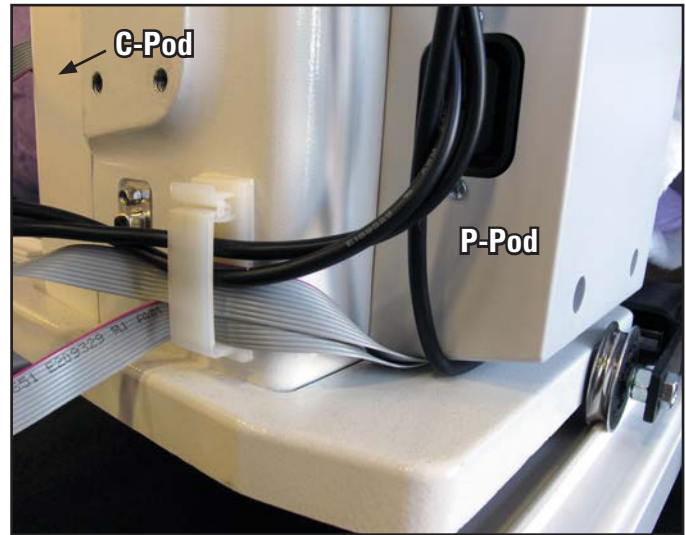
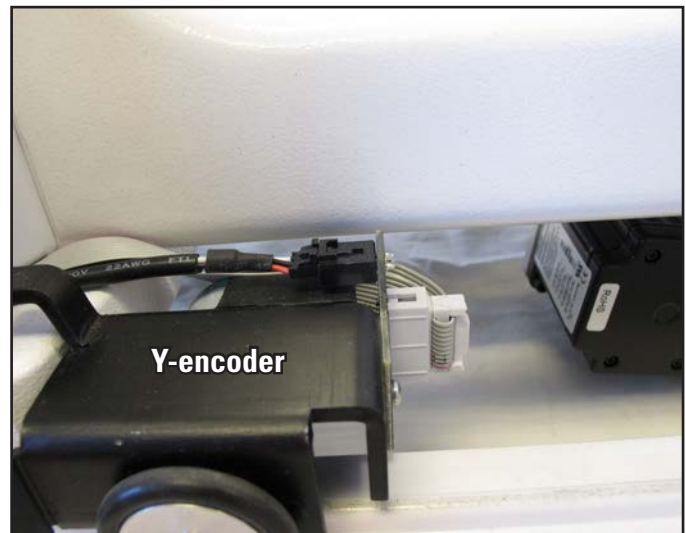

Figure 3.20
Figure 3.21
7. The small black cable with the black 3-connector clip should be routed underneath the P-Pod (**Figure 3.20**) and snapped into the quilting machine's "Y" encoder (**Figure 3.21**).
The two black cables that run from the carriage up to the computer should be clipped into the cable clip under the rear handlebar as shown in **Figure 3.20** to help prevent these cables from getting caught on the edges of the carriage.